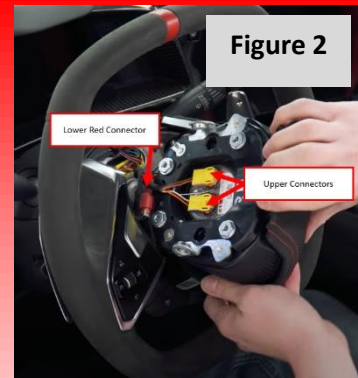

Figure 2
2. Undo the (x2) yellow connectors on the upper airbag module and a red one on the lower portion (**Figure 2**). For the upper connectors to be released, the orange tabs need to be pulled away from the back of the module.
Take the airbag module and reinstall the remaining connectors. Plug in the lower red connector, and the each of the (x2) main connectors (*Step 2, Figure 2*). Note that these are color coded to prevent improper connections.